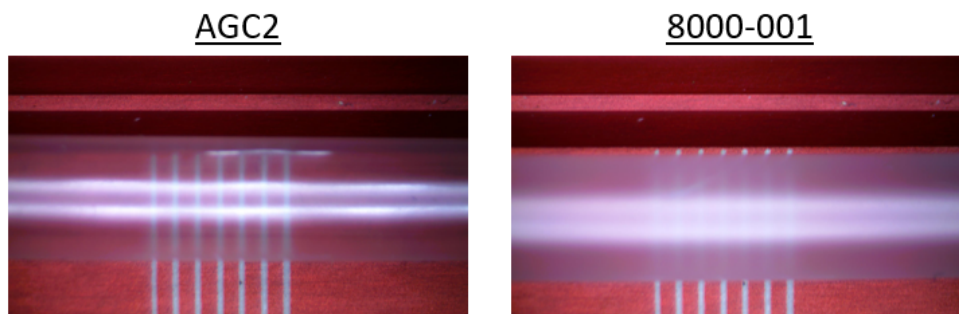

Figure 3: The new standard sample holders are more opaque and have a somewhat frosted appearance as compared to the old drinking straws.
- They are more opaque, or frosted, in appearance, see Figure 3. This variation is purely cosmetic, and does not impact their utility from a magnetometry standpoint.